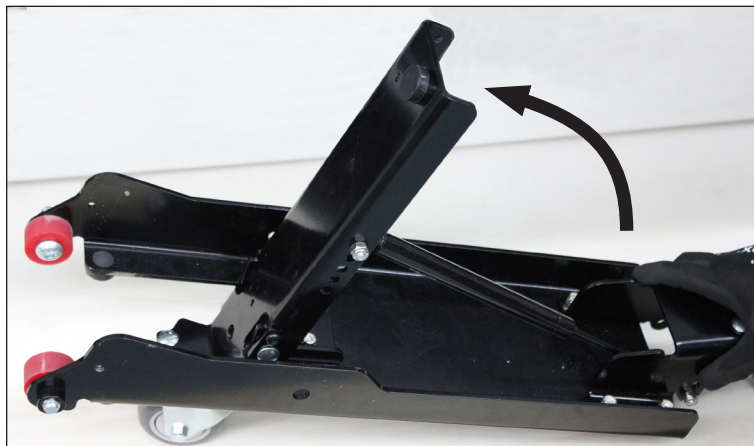

Figure 7: Lift Pivot Arm
4. Holding the caster base steady with one hand, slip a couple fingers of your other hand under the caster base pivot arm and lift up until it is fully extended. Refer to **Figure 7**.